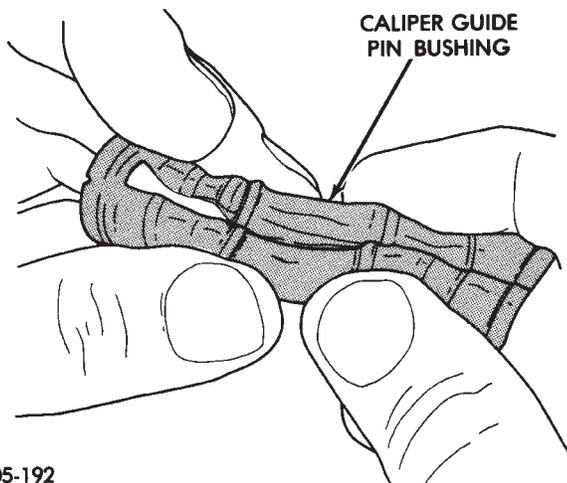

Fig. 9 Folded Caliper Guide Pin Bushing
(1) Fold the bushing in half lengthwise at the solid middle section of the bushing (Fig. 9).